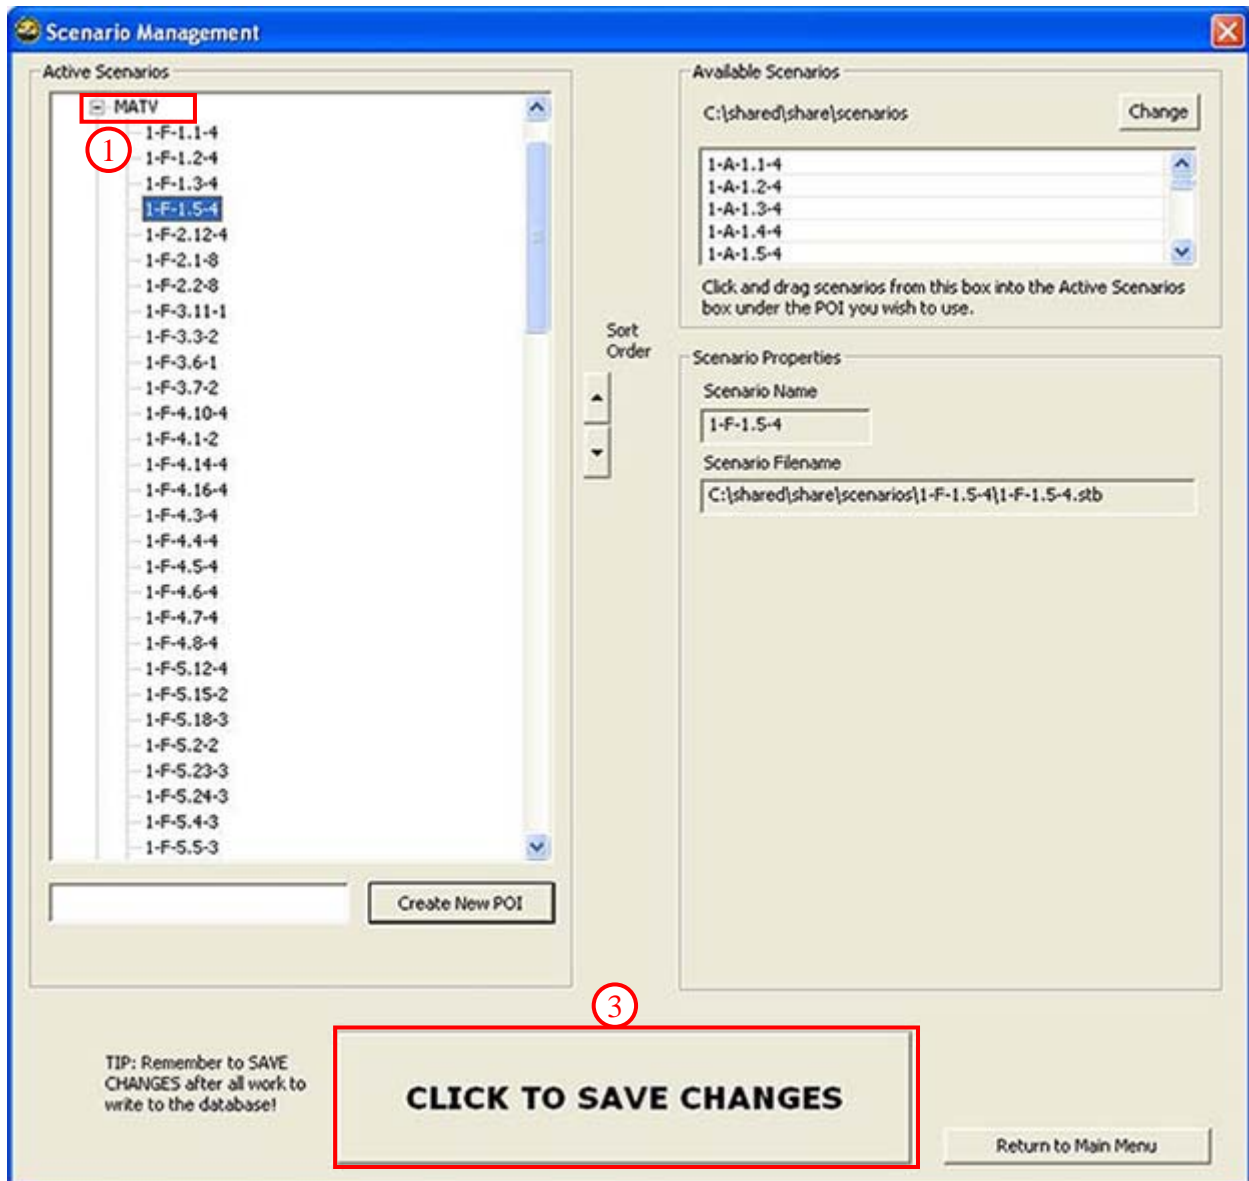

Figure 73. Scenario Management - Deleting a POI
1. Select the POI to be deleted (Figure 73).